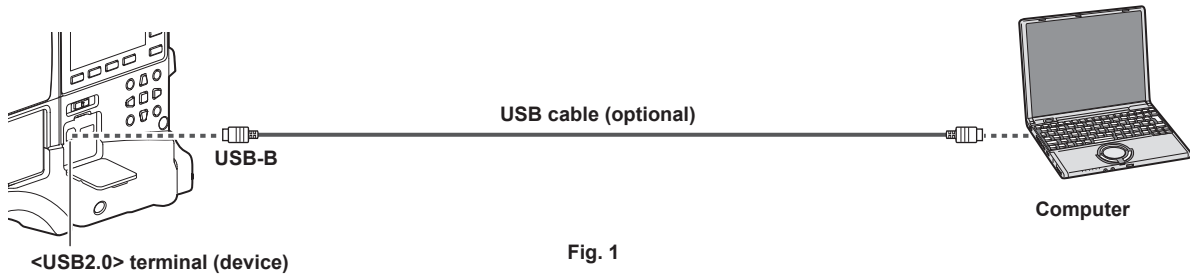

Fig. 1
**1** Connect the USB cable to the <USB2.0> terminal (device). (Fig. 1)